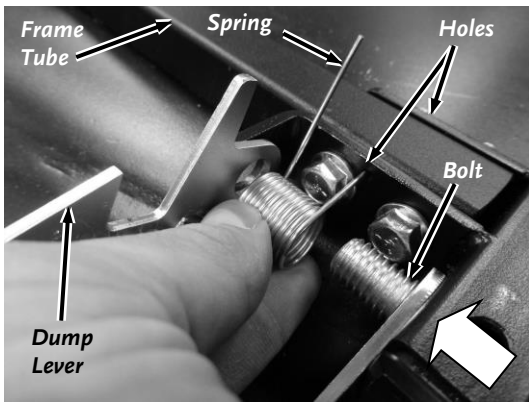

Figure 8
2. Insert one end of the Torsion Spring into the small hole in the Frame (positioned as shown) and push it through to the hole on the other side of the Frame Tube (**Figure 8**).